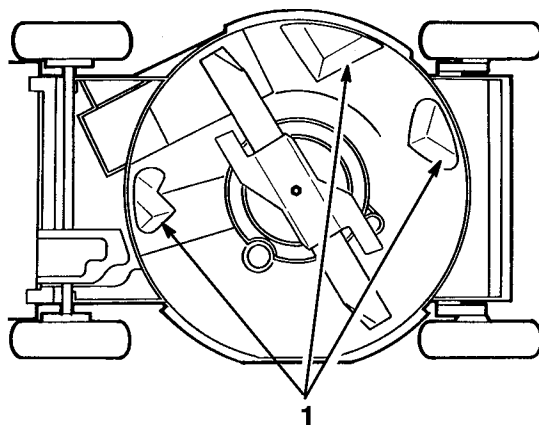

Figure 29
To ensure best performance, keep underside of mower housing clean. Be especially careful to keep kickers free of debris (Fig. 29).
3. Tip mower on its left side (Fig. 29).